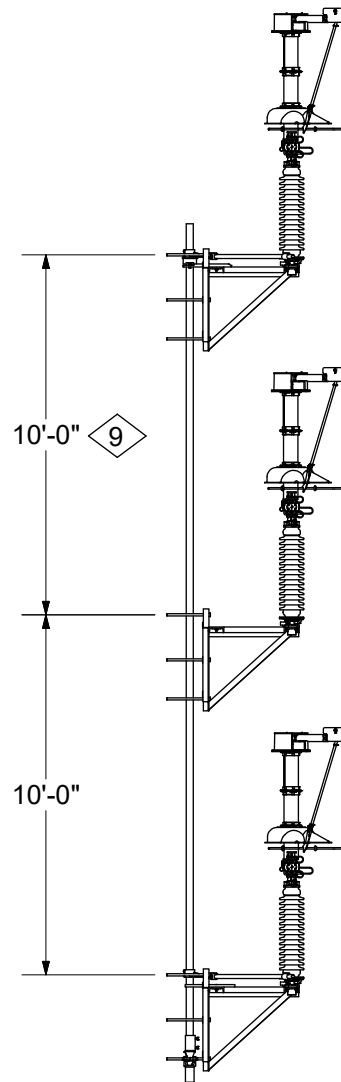

Figure 1
9. For 8'-0" spacing, the interrupter (if equipped) must be horizontally mounted to the insulator, as shown in the standards; otherwise the spacing shall be 10'-0" for vertically mounted interrupters, as shown in Figure 1. All new load break switches come with horizontally mounted interrupters. The vertically mounted interrupter can be replaced with horizontally mounted interrupters